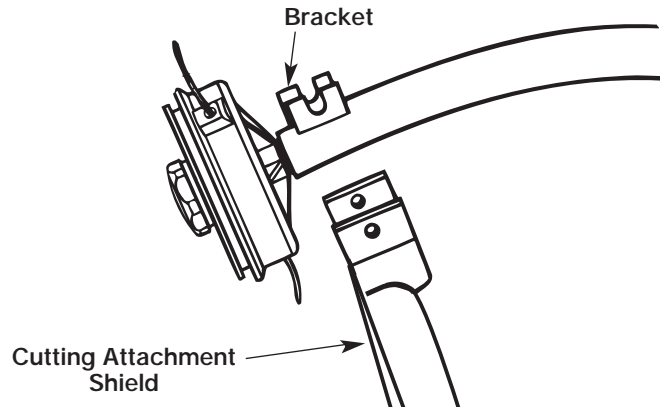

Fig. 2
1. Place the cutting attachment shield onto the shaft bracket (Fig. 2).